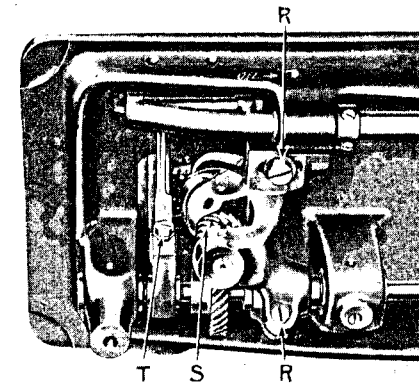

Fig. 17. Adjustment of Hook Saddle
Turn the balance wheel over toward you until the point of the sewing hook is at the centre of the needle. Loosen the two screws (R, Fig. 17) underneath the bed of the machine and move the hook saddle to the right or left, as may be required, until the point of the hook is as close to the needle as possible without striking it, then securely tighten the two screws (R).
Remove the throat plate, feed dog and the bobbin case opening lever. Then take out the two screws from the hook shaft gear (S, Fig. 17) and lift out the sewing hook.
Remove the throat plate; clean the lint and dust from between the feed points and replace the throat plate; tip the machine back and turn the balance wheel towards you until the feed dog is at its highest position; loosen screw (T, Fig. 17) in the feed lifting cam fork on the feed bar and raise or lower the feed dog, as may be required, and retighten the screw (T).